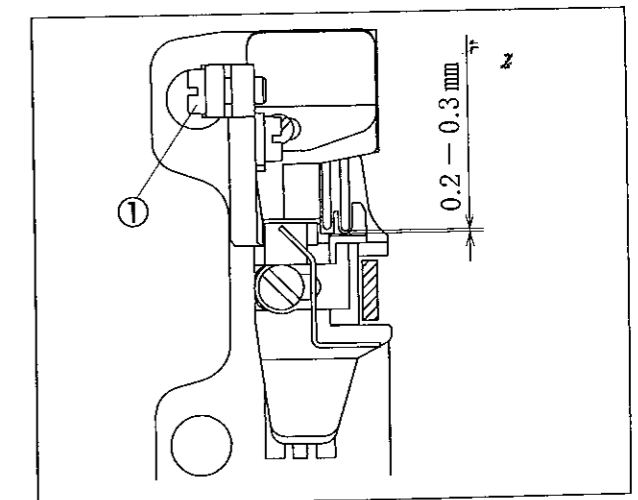

Fig. 6-43
To set front-and-rear position, adjust the clearance between needle drop of the presser foot and that of the stitch plate to 0.2 - 0.3 mm as shown in Fig. 6-43. Loosen the screw ① to make adjustment.